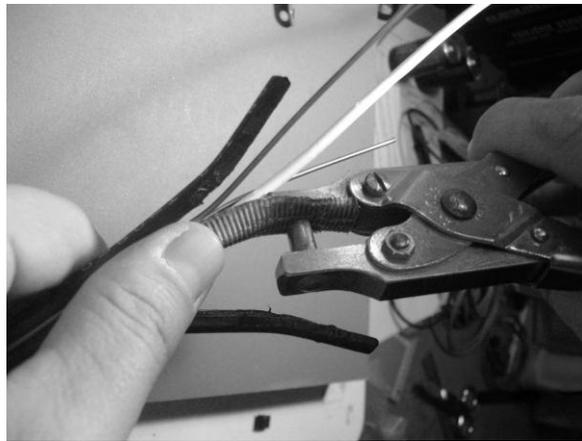

Figure 12 – Punch a hole in the armor.
- 3.4** Punch a hole in the armor (Figure 12) to accommodate the stud of the connector bottom.